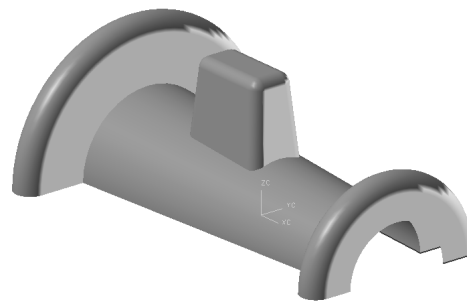

Figure 11-83 The completed surface model after adding the fillets to the edges
3. Choose the **OK** button from the **Edge Blend** dialog box. The completed surface model, after adding the fillets to the edges, is shown in Figure 11-83.